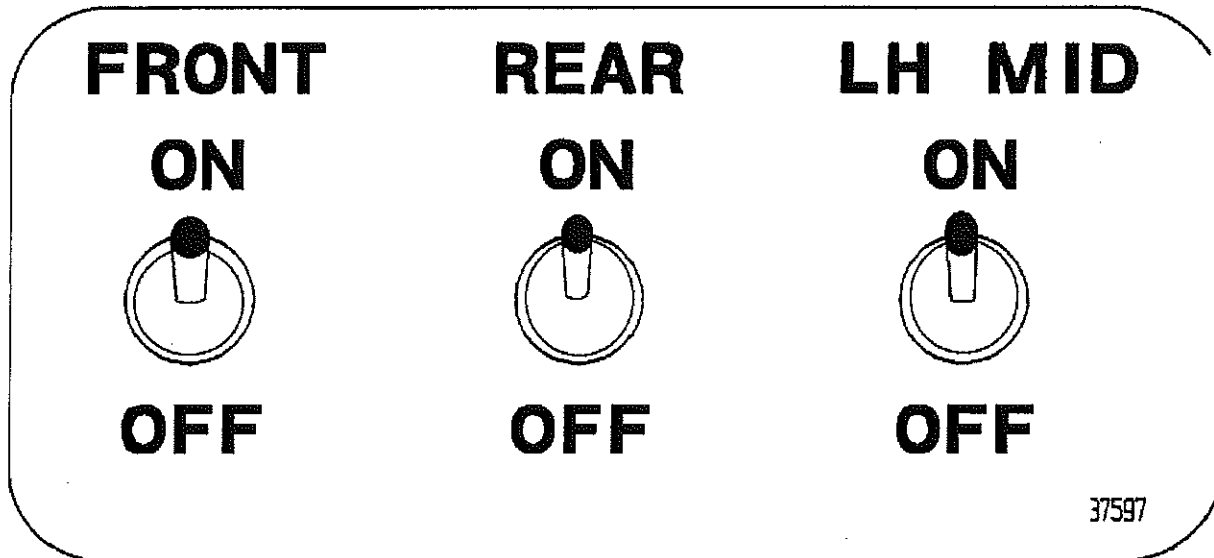

Figure 1 - Example of Control Panel Switches
A. *Control Panel:* (See Figure 1)